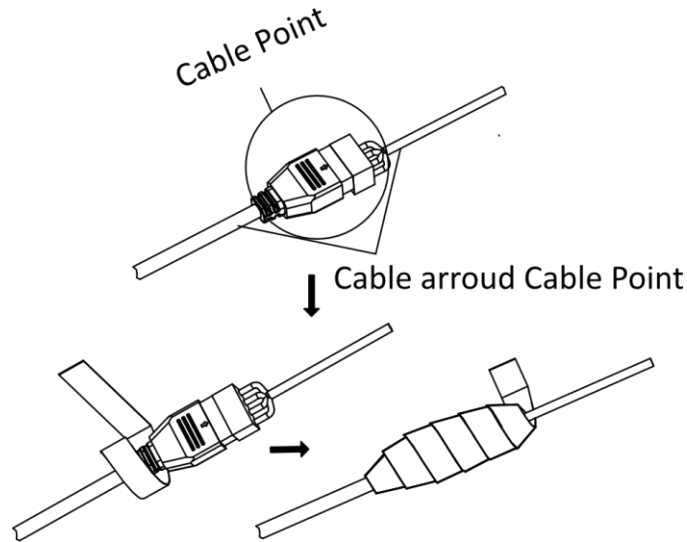

Figure 2-15 Wrapped Waterproof Tape
Step 3 After stretching the waterproof tape, wind it tightly on the terminal and the nearby cable in a half-lap way. Please keep the waterproof tape taut during the winding process, as shown in Figure 2-15.